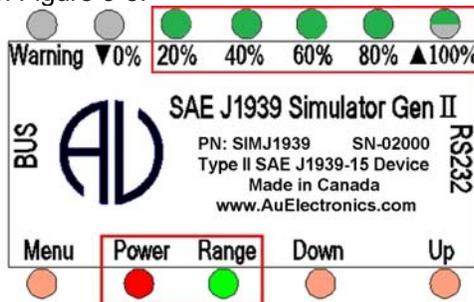

Figure 3-8
- When control step value equals to 100%, 20%, 40%, 60%, and 80% LED will be constant on. ▲100% LED blinks, as shown in Figure 3-8.